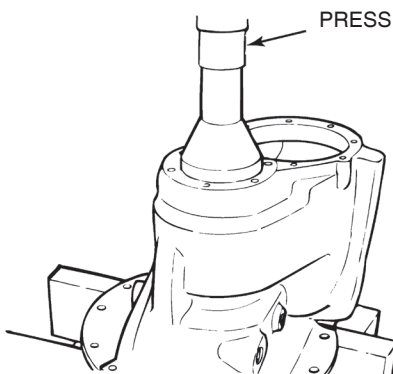

Figure 5.8
- C. Use a sleeve or a installation tool and a press to install the cap. Press the cap into the differential case until the bottom of the cap touches the bottom of the bore. If a press is not available, use a sleeve, a brass drift or a installation tool and a hammer to install the cap. Figure 5.8.